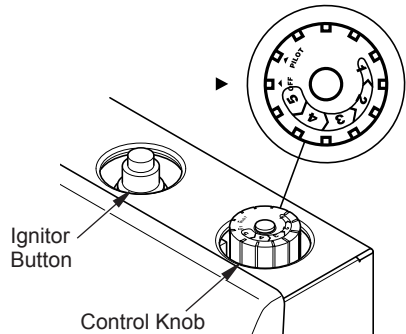

Figure 22 - Control Knob in the OFF Position
4. Wait five (5) minutes to clear out any air. Then smell for gas, including near the floor. If you smell gas, STOP! Follow "B" in the safety information above. If you do not smell gas, go to the next step.
5. Turn control knob counterclockwise  to the PILOT position. Press in control knob for five (5) seconds (see Figure 22).